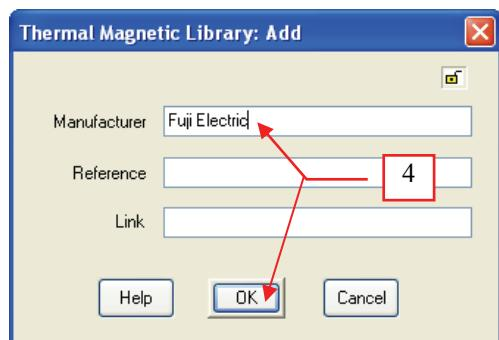

Fig. 15
- Enter the following on the “Thermal Magnetic Library: Add” dialog box and click the “OK” button. See Fig. 15.